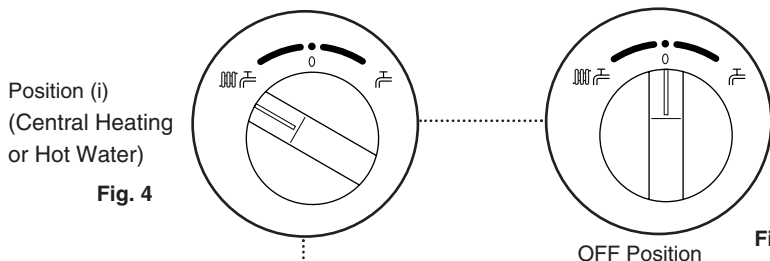

Fig. 4
4. **Position (i)** In this position the boiler will heat the radiators according to demand or will heat the hot water storage cylinder as required (Fig. 4).